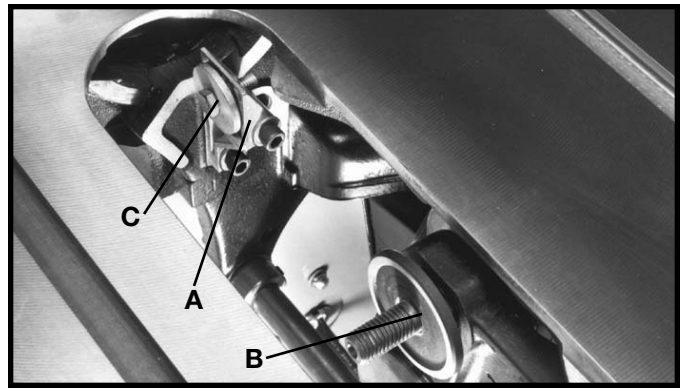
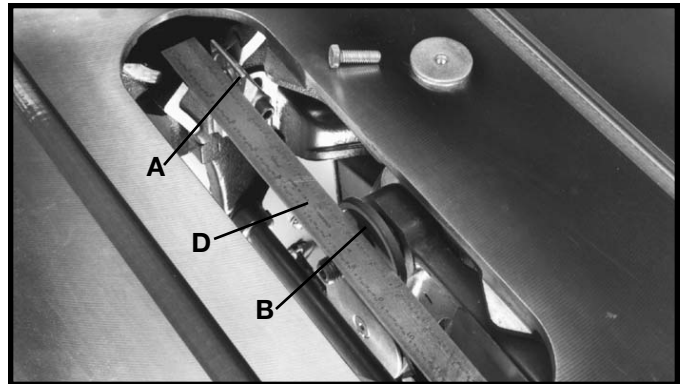
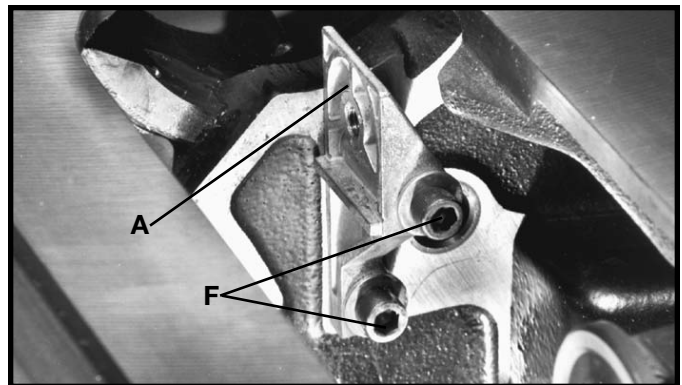

Fig. 12
Fig. 13
Fig. 14
2. The inside splitter mounting bracket (A) Fig. 12, is assembled to the inside of the saw and aligned with the inside blade flange (B) at the factory.
3. To check the alignment, remove screw and fastener plate (C) Fig. 12. Using a straight edge (D) Fig. 13, check to see if the splitter bracket (A) is aligned with the inside blade flange (B). Check both the top and bottom of bracket (A) with the top and bottom of flange (B).
4. If an adjustment is necessary, loosen two screws (F) Fig. 14, and adjust splitter bracket (A) until it is aligned with the inside blade flange (B) Fig. 12. Tighten two screws (F). Loosely assemble screw and fastener plate (C), which were removed in STEP 3.